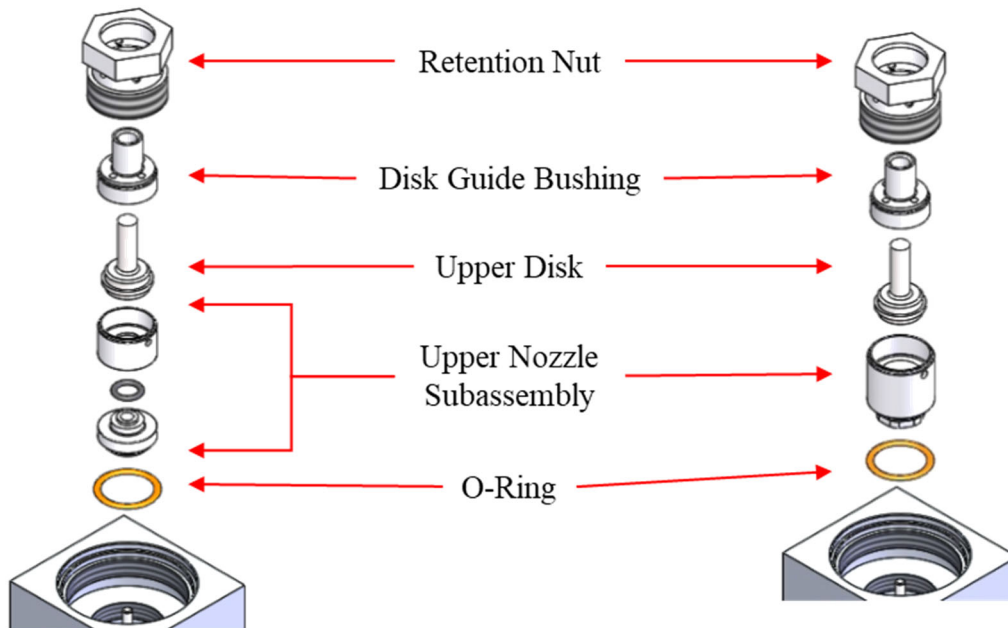

Figure 28: Upper Seat and Disk Components (New Style on Left, Old Style on Right)
14. Remove the disk guide bushing, upper disk, and upper nozzle subassembly. Remove the o-ring located below the upper nozzle subassembly. See Figure 28.